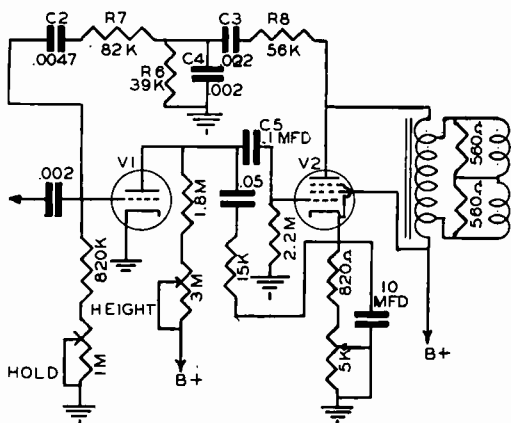
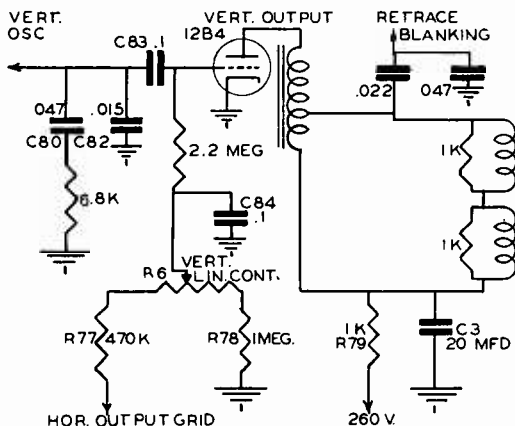

FIG. 4. The Pentode Section of a Multivibrator (V2) also serves as a Vertical Output Stage.
FIG. 5. How Bias can be obtained and adjusted from Horizontal Section for Vertical Output Linearity. Page Six
The vertical deflection section shown in Fig. 4 consists of a modified multivibrator which drives the output vertical amplifier stage. For reasons of manufacturing economy, this circuit uses only a minimum number of tubes and does not require a blocking transformer in the single section oscillator stage. V1 and V2 may be in a single envelope. Feedback to sustain oscillation is obtained from the plate circuit of the output stage. The feedback network is made up of C2, C3, C4, R6, R7 and R8.
In the circuit shown in Fig. 5, the cathode of the vertical output tube is returned directly to ground instead of passing through the usual linearity control. In this case, the linearity control is located in the grid circuit, and varying this control will shift the operating point of the output tube to provide good linearity. The resistors R77, R6 and R78 are connected in series and are in parallel with the grid resistor of the horizontal output stage (not shown in Fig. 5). This means the dc voltage present at the hori-
- B. Open coupling capacitor (See C154 in Fig. 1) C72 and C74 in Fig. 3; C2, C3 and C5 in Fig. 4; C83, in Fig. 5; or C77 and C78 of Fig. 6.